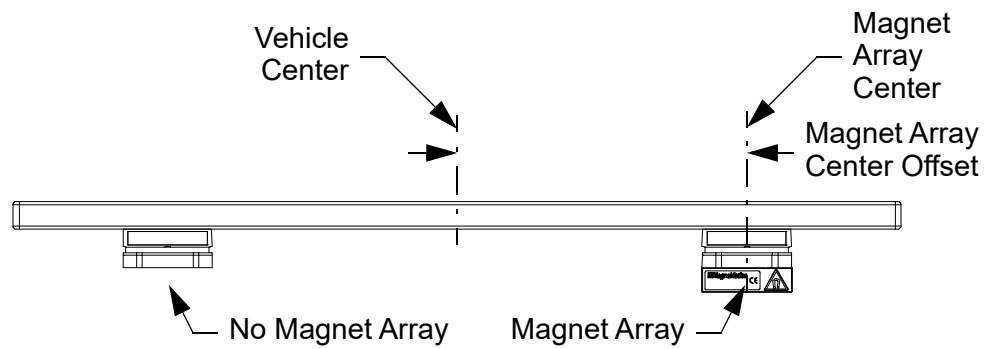
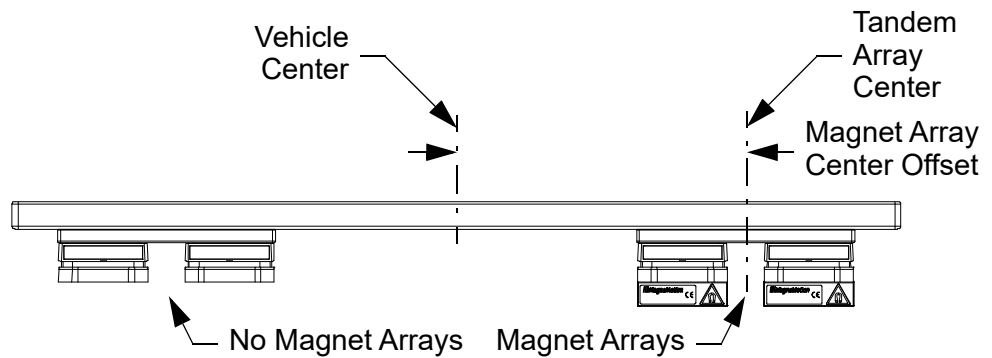

Figure 4-27: Magnet Array Center Offset, Two Single Vehicles
Figure 4-28: Magnet Array Center Offset, Two Tandem Vehicles
- If the payload is large enough to cause the vehicle to tip, a second vehicle without a magnet array can be added to the vehicle to provide additional support for the vehicle, see Figure 4-27 and Figure 4-28.